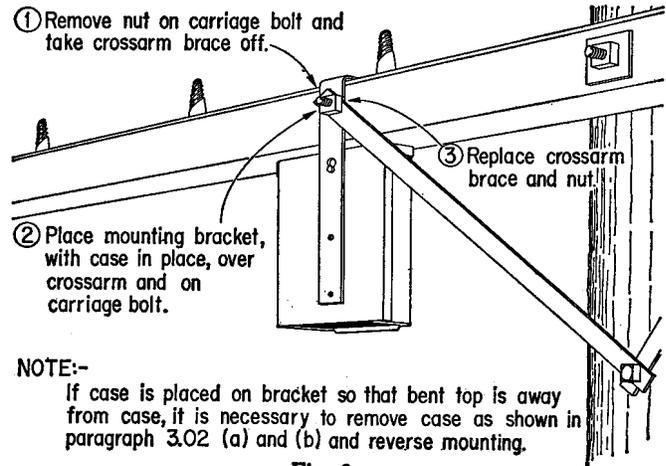

Fig. 8
4.02 Figs. 8 and 9 cover installation on a crossarm. It is not necessary to remove the mounting bracket from the case when installing on a crossarm.